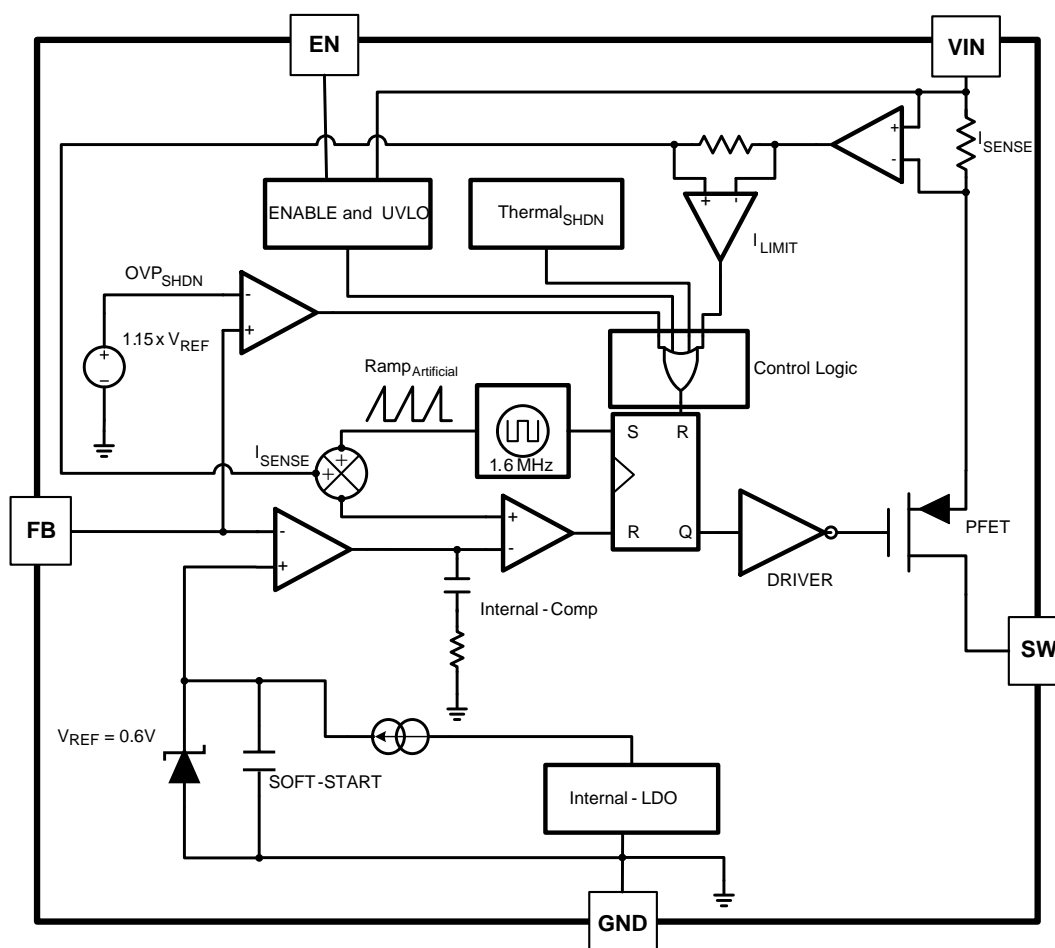
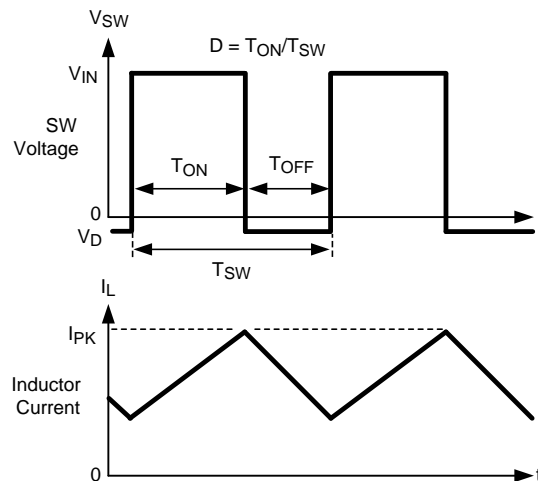

Figure 23.
Figure 24. Typical Waveforms
The LM2831 is a constant frequency PWM buck regulator IC that delivers a 1.5A load current. The regulator has a preset switching frequency of 550kHz, 1.6MHz, or 3.0MHz. This high frequency allows the LM2831 to operate with small surface mount capacitors and inductors, resulting in a DC/DC converter that requires a minimum amount of board space. The LM2831 is internally compensated, so it is simple to use and requires few external components. The LM2831 uses current-mode control to regulate the output voltage. The following operating description of the LM2831 will refer to Figure 23 and to the waveforms in Figure 24. The LM2831 supplies a regulated output voltage by switching the internal PMOS control switch at constant frequency and variable duty cycle. A switching cycle begins at the falling edge of the reset pulse generated by the internal oscillator. When this pulse goes low, the output control logic turns on the internal PMOS control switch. During this on-time, the SW pin voltage (V_{SW}) swings up to approximately V_{IN} , and the inductor current (I_L) increases with a linear slope. I_L is measured by the current sense amplifier, which generates an output proportional to the switch current. The sense signal is summed with the regulator's corrective ramp and compared to the error amplifier's output, which is proportional to the difference between the feedback voltage and V_{REF} . When the PWM comparator output goes high, the output switch turns off until the next switching cycle begins. During the switch off-time, inductor current discharges through the Schottky catch diode, which forces the SW pin to swing below ground by the forward voltage (V_D) of the Schottky catch diode. The regulator loop adjusts the duty cycle (D) to maintain a constant output voltage.